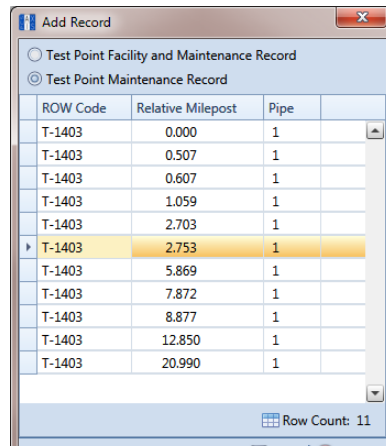

Figure 7-22. Add Record
- 6 Click **Add** to open the *Add Record* dialog box (Figure 7-22). Then continue with one of the following steps:
- a Click the option **Test Point Maintenance Record**. Then select a facility in the list of facilities. For example, the facility at *Milepost 2.753* (Figure 7-22).